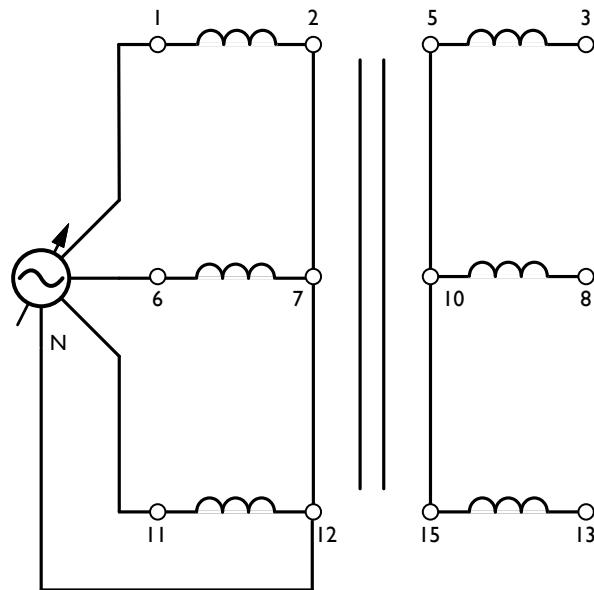

Figure 2.3: Three-Phase Transformer Connected in Wye-Wye
11. With the power off, connect all three transformers together in the three-phase **Y - Y** configuration shown in Figure 2.3. **Have your circuit checked before turning on the power.**